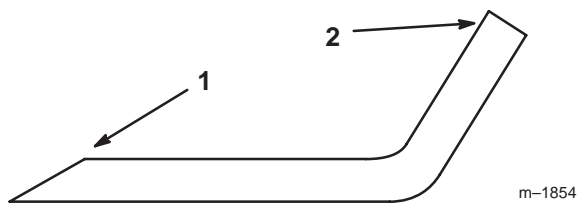
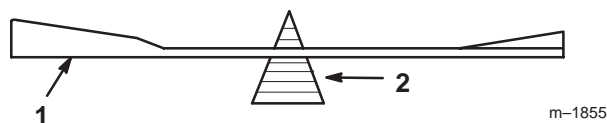

Figure 35
Figure 36
1. Use a file to sharpen the cutting edge at both ends of the blade (Fig. 35). Maintain the original angle. The blade retains its balance if the same amount of material is removed from both cutting edges.
2. Check the balance of the blade by putting it on a blade balancer (Fig. 36). If the blade stays in a horizontal position, the blade is balanced and can be used. If the blade is not balanced, file some metal off the end of the sail area only (Fig. 35). Repeat this procedure until the blade is balanced.